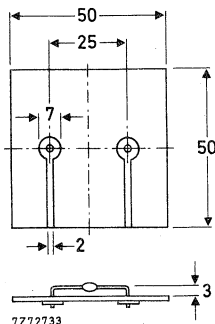

Fig. 2 Device mounted on a printed circuit board.
2. Thermal resistance from junction to ambient when mounted on a 1,5 mm thick epoxy-glass printed-circuit board; Cu-thickness  $\geq 40\text{ }\mu\text{m}$ ; Fig. 2 (see "Thermal model")